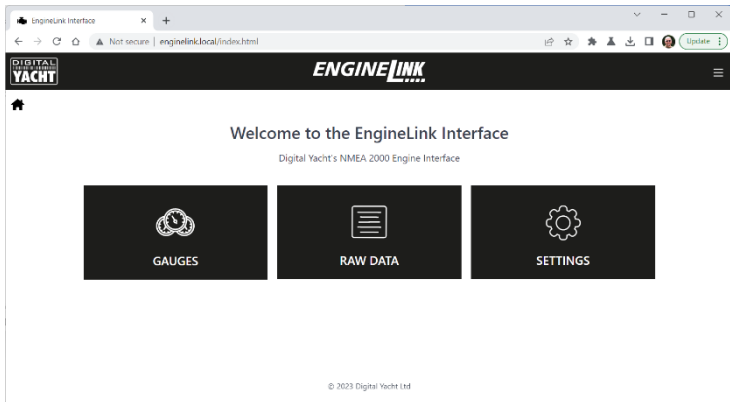

Figure 1
- A wireless device, connected to EngineLink, can access its web interface in a browser at <http://192.168.1.1> or <http://enginelinek.local> which should bring up the EngineLink home page as shown in Figure 1.